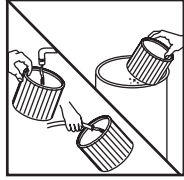

FIGURE 25, 26
36. To clean the cartridge filter shake or brush off excess dirt or rinse (from the inside of the filter) with water, dry completely (approximately 24 hours) and re-install. **FIGURE 25, 26.** Note: If the filter has been used for wet pick up, it must be cleaned and dried before using for dry pick up.